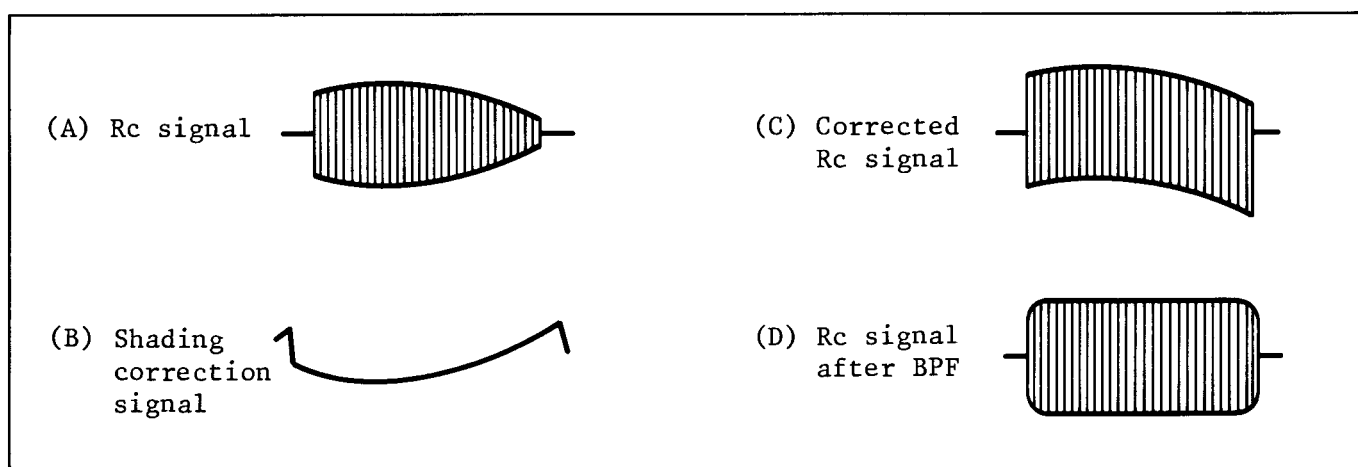

Fig. 20. Shading Correction
Suppose a uniformly illuminated white object is seen by the camera and the R color component signal has a shading (error) such as that shown in Fig. 20 (A). In this case, a shading correction signal (B) is generated by the shading correction circuit (which is set to the proper level during alignment). The R signal (A) is modulated by the shading correction signal (B), and a corrected R signal (C) is produced. This shading correction signal is mixed with the R signal (C) by a differential amplifier, and the R signal (D) is obtained. The color shading correction of the B signal is similar.